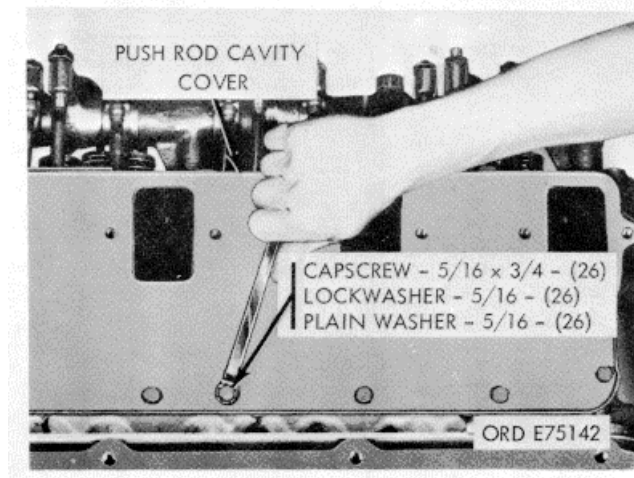
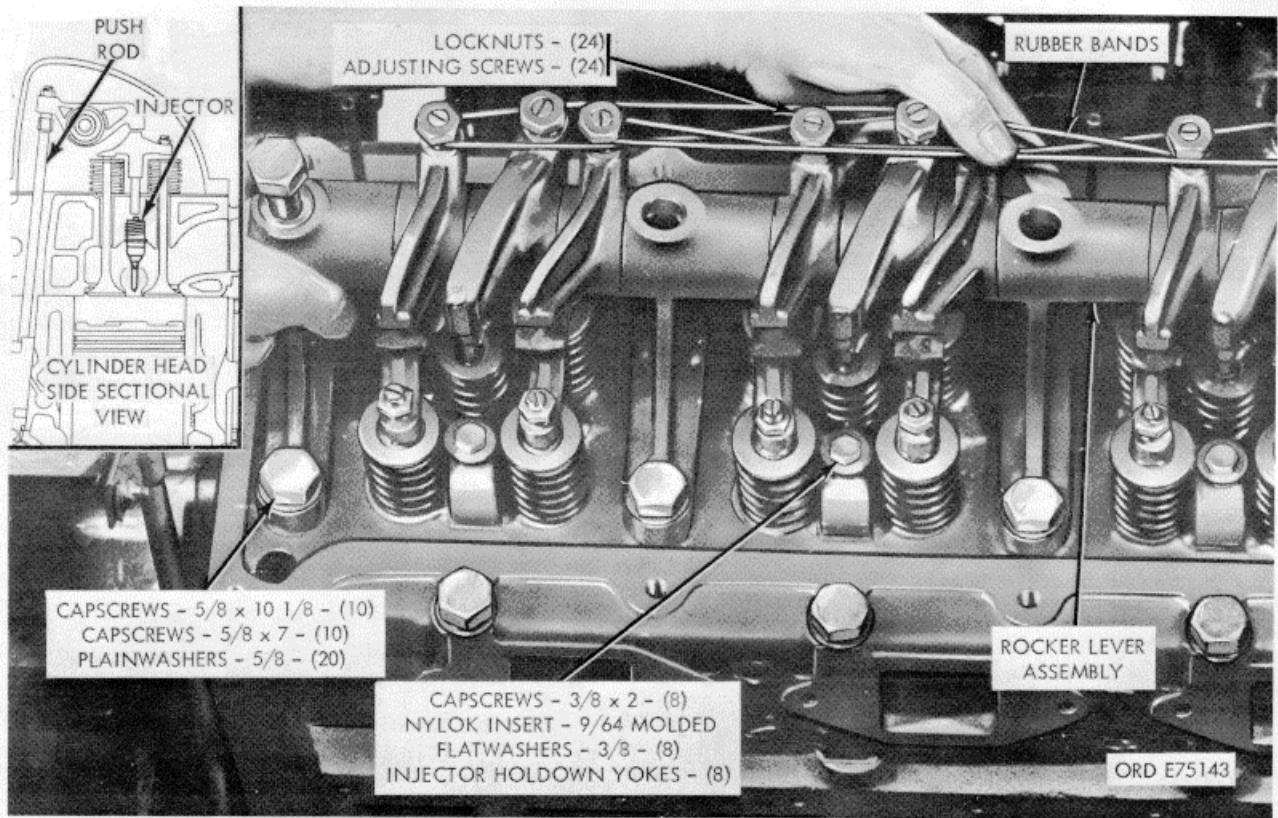
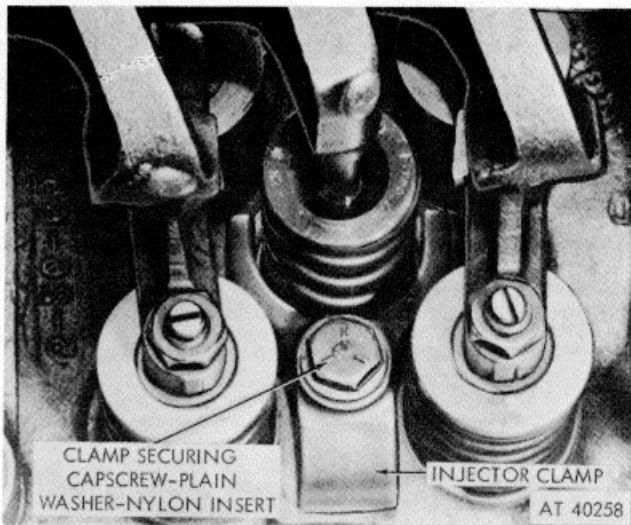
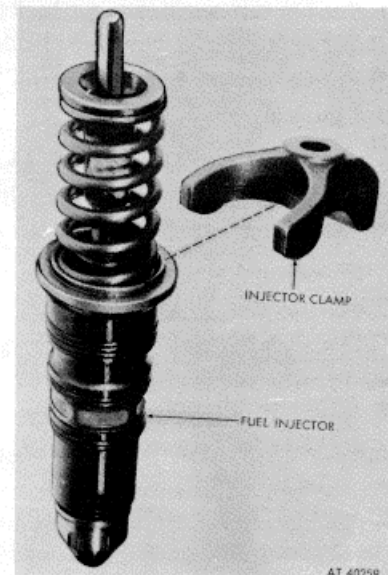

Figure 2-14. Push rod cavity covers-removal/installation.
Figure 2-15. Rocker arms and push rods--removal/installation.
Figure 2-16. Injector clamps--removal/installation.
Figure 2-17. Fuel Injector and hold-down clamp.
b. Push Rod Cavity Covers (fig. 2-14).
(1) Remove 26 capscrews, lockwashers, and flat washers securing each cover to cylinder heads.
(2) Remove covers and gaskets.
c. Rocker Arms and Push Rods (fig. 2-15)
(1) Loosen all push rod adjusting screw locknuts and back-off adjusting screws.
(2) Secure rocker arms with rubber bands.
(3) Remove ten capscrews and flat washers securing each rocker arm to respective cylinder head.
(4) Remove rocker arms and brackets.
(5) Remove 24 push rods (16 valve and 8 injector) from tappets.
d. Fuel Injectors (fig. 2-16).
(1) Remove eight capscrews and flat washers and nylon inserts securing injector clamps to cylinder head.
(2) Remove clamps.
(3) Pull injectors from cylinder head (fig. 2-17).